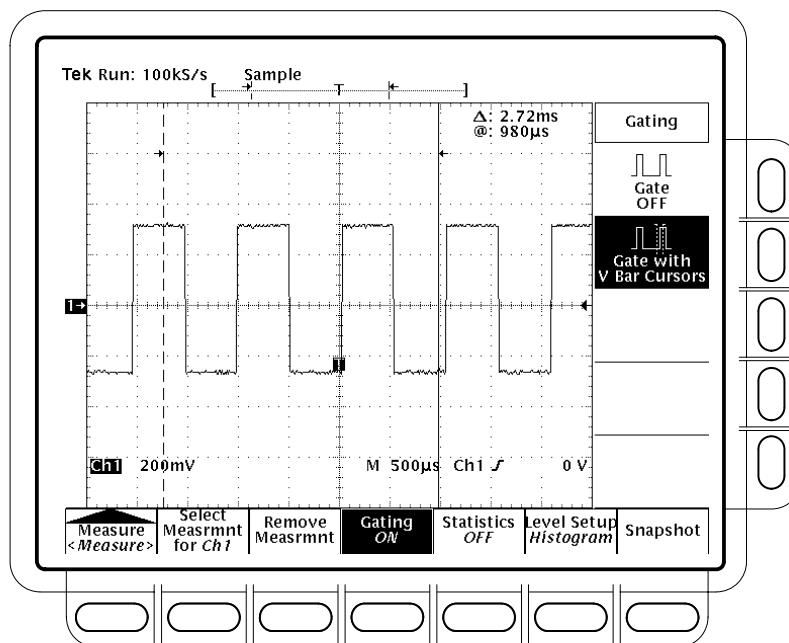

Figure 3–61: Measure Menu — Gating
1. TDS 600B: Press **MEASURE** → **Gating** (main) → **Gate with V Bar Cursors** (side). (See Figure 3–61.)
2. TDS 500D and TDS 700D: Press **MEASURE** → **Measure** (pop-up) → **Gating** (main) → **Gate with V Bar Cursors** (side). (See Figure 3–61.)